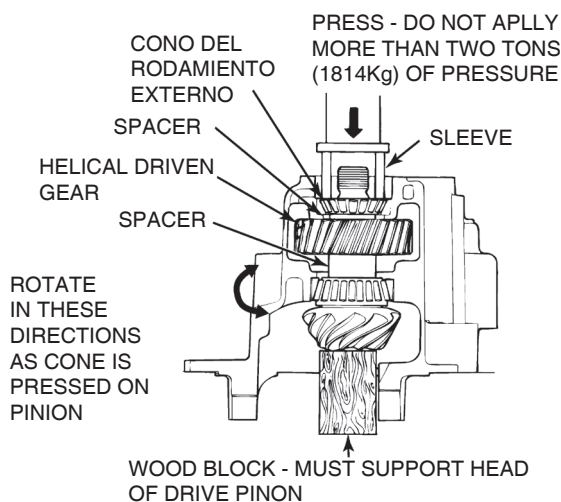

Figure 5.15
17. Place a wood block under the head of the drive pinion so that the inner bearing cone on the pinion touches the inner bearing cap in the differential case. Remove the supports from the differential case. Figure 5.15.
20. Install the outer bearing cone into the shaft of the drive pinion. Figure 5.15.